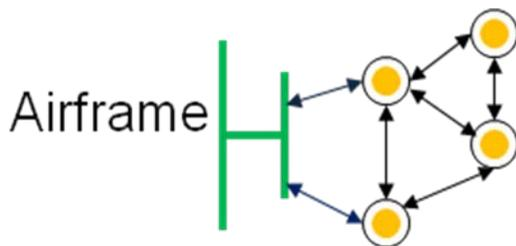

Figure 1
Background: TDRs work on the principle of impedance between two conductors. They also need the cable's Velocity Factor (VF), aka Velocity of Propagation (VP or VoP) or Nominal Velocity of Propagation (NVP) to obtain the cable's distance readings. Refer to AN200 "Basic Theory of TDR Operation" for more background. Coaxial cables and twisted pair cables are normally manufactured to specific standards. Their impedance and VF will be published by the manufacturer. Single-wires by themselves do not have an impedance or VF. However, when bundled in a harness, as shown in Figure 1, or running along a metal surface they adopt an impedance and VF from the contact with the other wires in the harness or metal surface they are in contact with. See Figures 2 and 3.